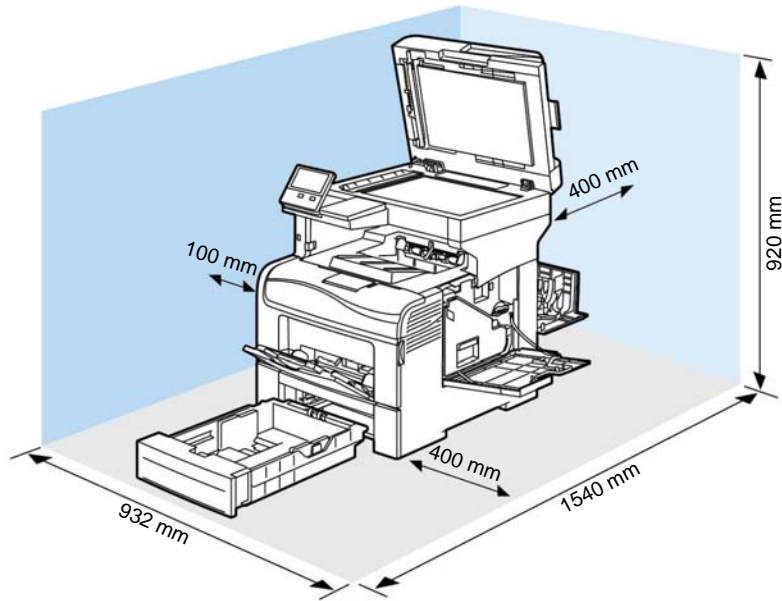
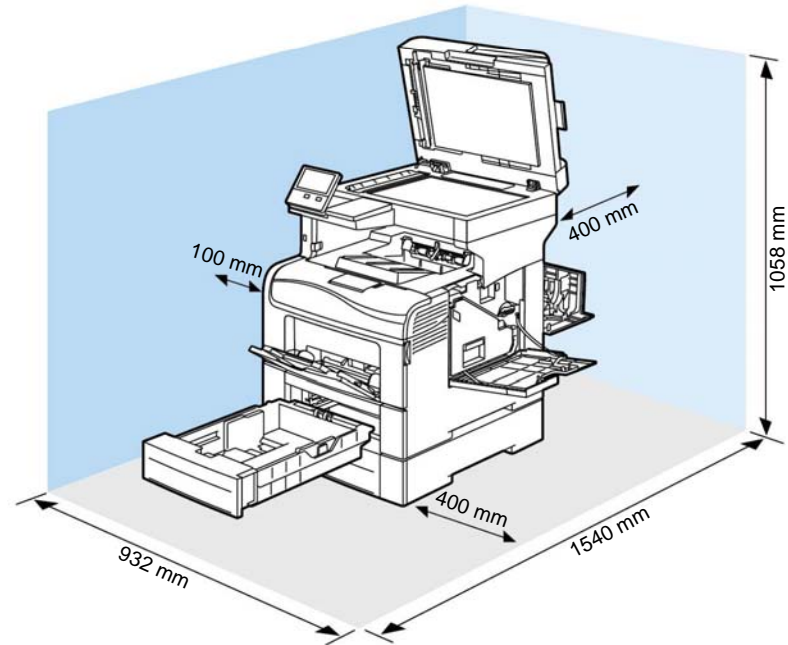

Figure 3 Minimum clearance
Figure 4 Minimum clearance w/option 550
1. In order to function correctly, the device must be placed on a flat surface with the following minimum clearances shown in Figure 3 and Figure 4 with the optional 550-sheet feeder.